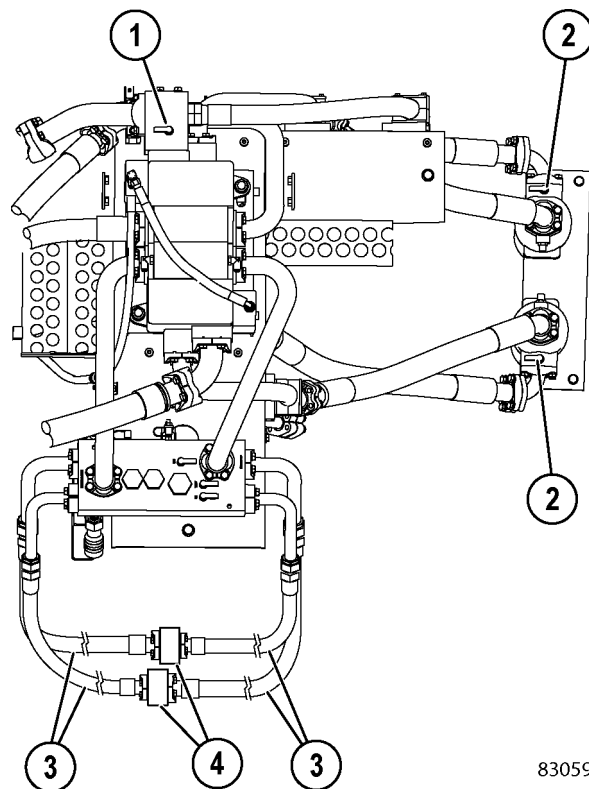
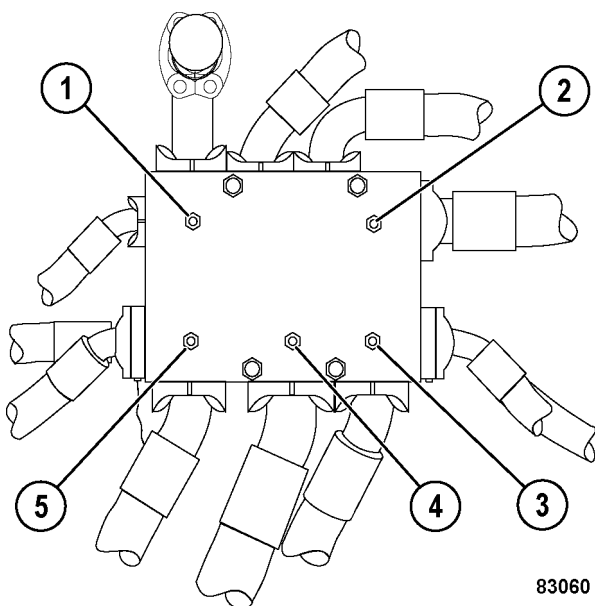

FIGURE 10-2. TEST PORT LOCATIONS AND HOIST FLUSHING HOOKUP
FIGURE 10-3. BRAKE COOLING MANIFOLD
- Pressure test port (1, Figure 10-2) for the front brake cooling circuit - 3 450 kPa (500 psi).
- Pressure test ports (2, Figure 10-2) on both high pressure hoist filters - 24 000 kPa (3,500 psi).
- Pressure test port (1, Figure 10-3) for the rear brake cooling circuits - 3 450 kPa (500 psi).
9. Connect the four hoist cylinder hoses (3, Figure 10-2) together as shown using bypass blocks (4). The hardware for connecting the hoses to the blocks is the same hardware for connecting the hoses to the hoist cylinders. Ensure that all of the connections are secure. Cover all open ports to prevent contamination.
21. If the oil pressure readings in Step 20 are correct, increase the engine speed to obtain oil pressure at test port "GPA" of 1 725 kPa (250 psi). Move the hoist control lever to the POWER UP or to the POWER DOWN position. The pressure readings at the front brake cooling port (1, Figure 10-2) and rear brake cooling test port (1, Figure 10-3) should be 0 kPa (0 psi). If the pressure is not 0 kPa (0 psi), the hoist valve piping (or pilot lines) may be connected incorrectly, or the hoist valve could be defective. Correct the plumbing problem or replace the hoist valve and repeat this step.